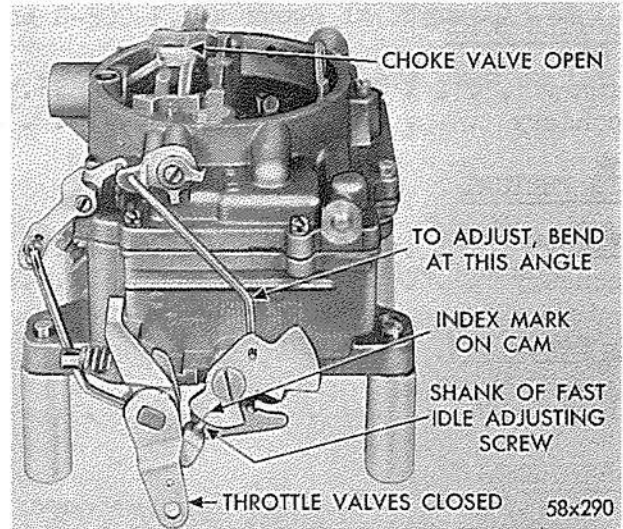
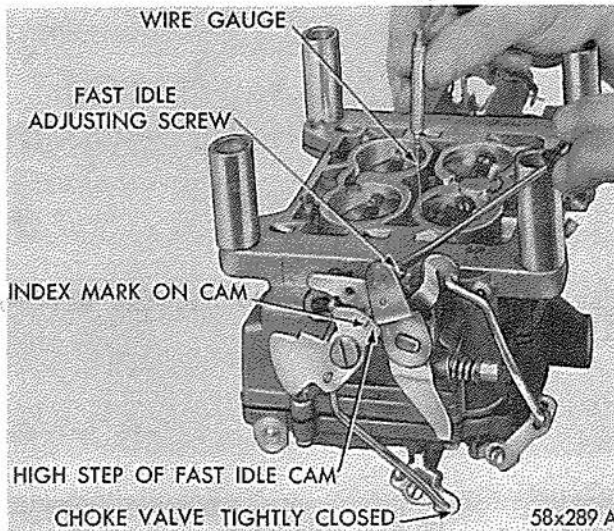

Fig. 7 - Indexing Fast Idle Cam
Fig. 6 Checking and Adjusting the Fast Idle
(1) With the choke valve held tightly closed and carburetor inverted, tighten the fast idle adjusting screw (on the high step of the fast idle cam) until wire gauge Tool T-109-29 (.020 inch) can be inserted between the primary throttle valve and the bore (side opposite idle port), as shown in Figure 6. The index mark on the fast idle cam should be in direct line with the fast idle screw shank, as shown in Figure 7. The index mark on the cam should be in direct line with the fast idle screw shank.
(2) Invert the carburetor and open the throttle valves to wide open position. Close the choke valve tightly and then close the throttle valves. Release the choke valve. This will position the fast idle cam to fast idle. The index mark on the cam should line up with the center of the fast idle adjusting screw, as shown in Figure 7.